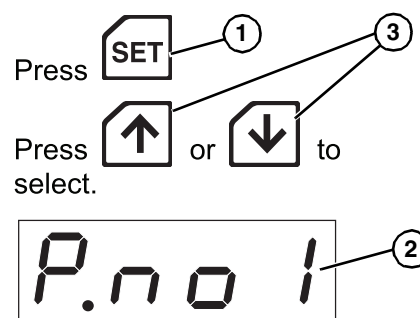
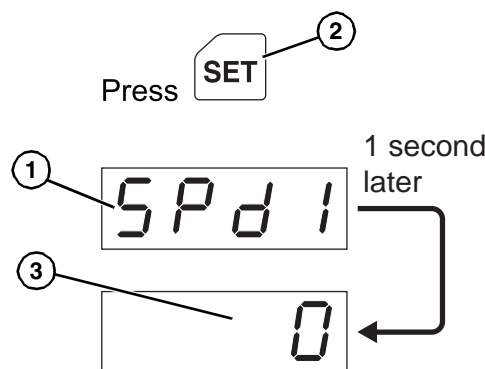

Figure 25
Figure 26
2. Press SET (Figure 25, item 1). “P.no1” (Figure 25, item 2) will be displayed.
3. Press SET (Figure 25, item 1). Press up or down (Figure 25, item 3) until “SPd1” (Figure 26, item 1) is displayed. Press set (Figure 26, item 2) again. “SPd1” (Figure 26, item 1) will blink and correct speed (Figure 26, item 3) will be displayed.